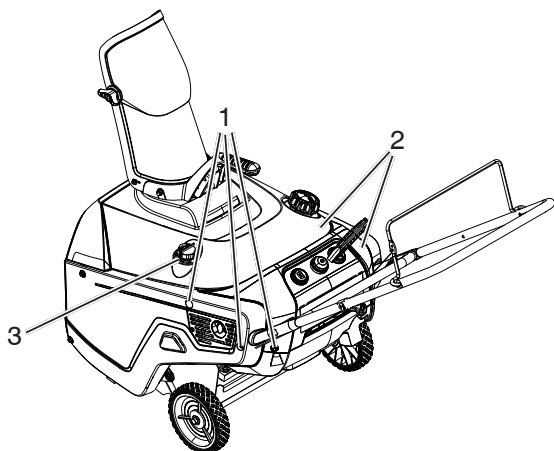

Figure 27
6. Remove the shroud assembly (Figure 27).
15. Install the shroud with the screws removed in step 4 (Figure 27).